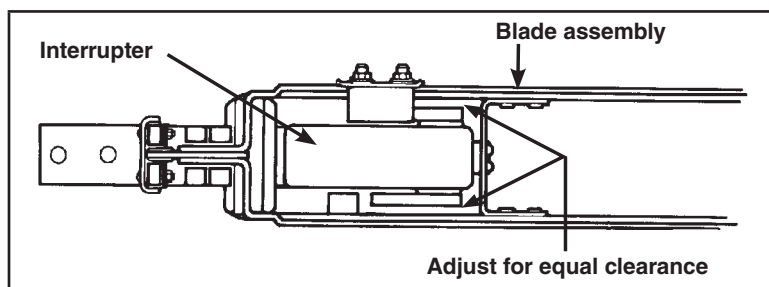

Figure 27. Interrupter lies parallel to the sweep of the blades.
- (d) The interrupter must lie in a plane parallel to the sweep of the blades, and the blades must pass over the interrupter with approximately equal clearance on both sides. See Figure 27.